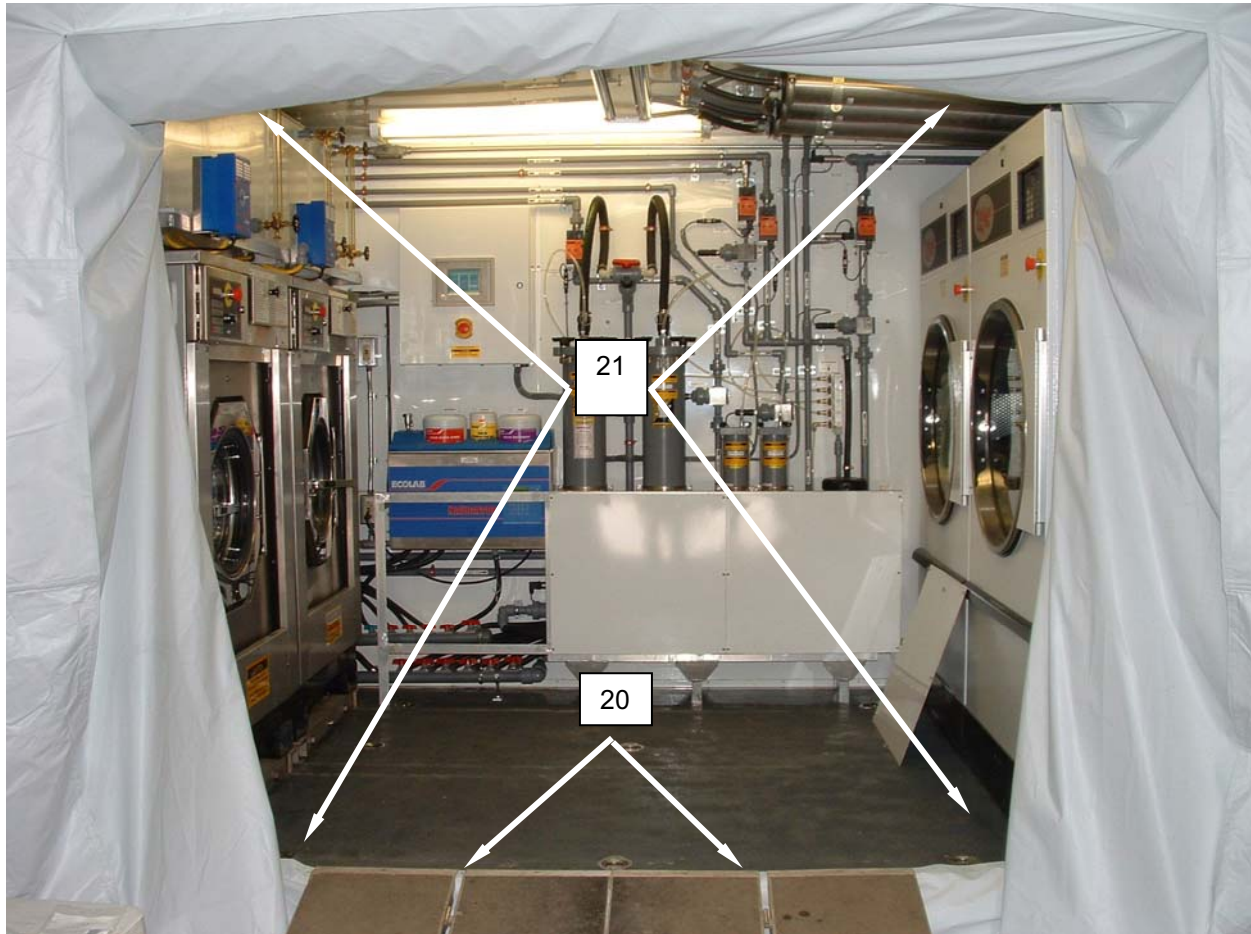

Figure 26. Remove Ramps and Release Bootwall during NBC Imminent or Actual Attack.
14. Remove ramps (Figure 26, Item 20) and place inside container.
15. Release bootwall (Figure 26, Item 21) from the entrance of container.